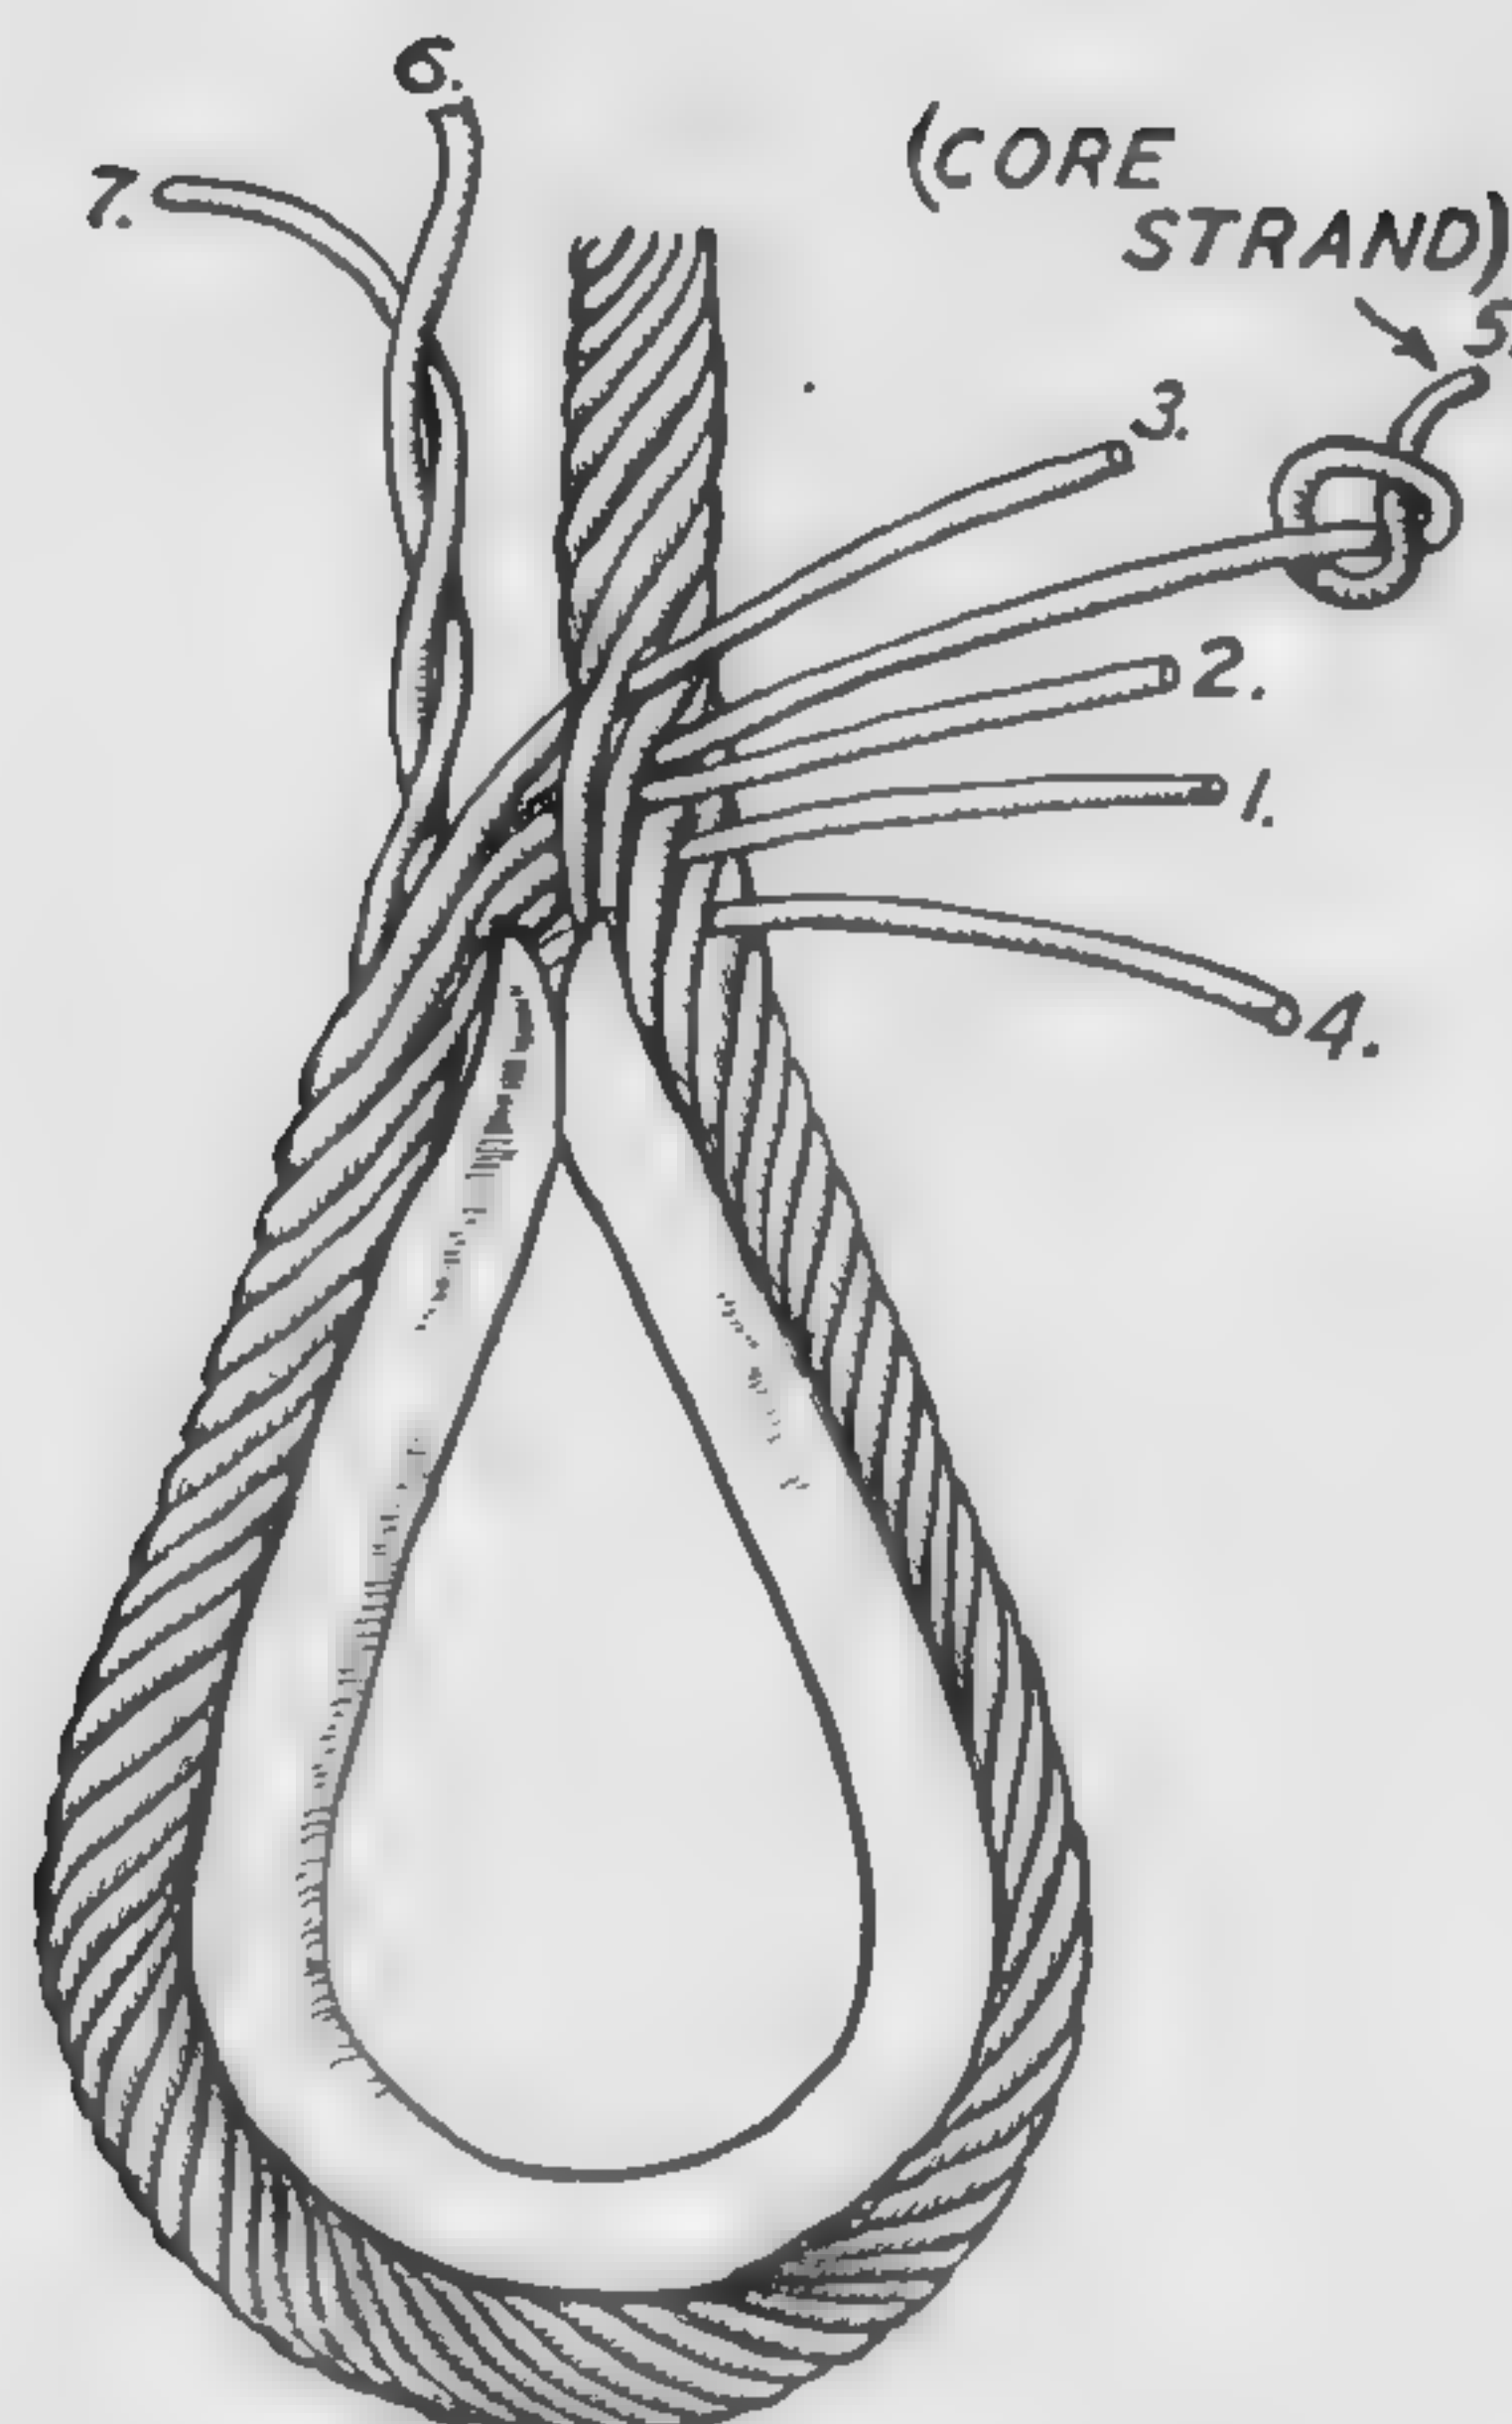

Fig. 17. Step 5 of the First Tuck
Step 5. There are three strands left. One, which is the core strand or No. 5, is perfectly straight. Separate the core strand from the other two. Turn thimble over to the first position. Run the core strand through the same place as No. 2 strand, under two strands. This is the only time the core strand is tucked through. Tie a knot in the core strand so it will not be tucked again. See Fig. 17.